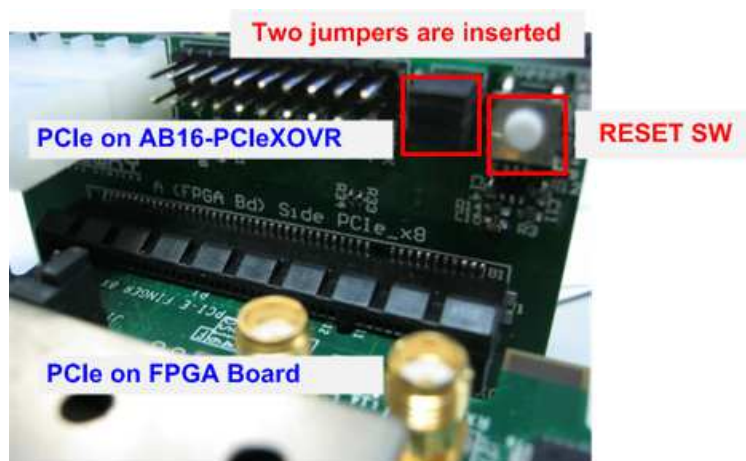

Figure 2-2 Connect PCIe connector between AB16 and FPGA board
- 3) Connect PCIe connector on A Side of AB16-PCIeXOVR board to PCIe connector on Xilinx development board, as shown in Figure 2-2. Also, check that two mini jumpers are inserted at J5 connector on AB16.